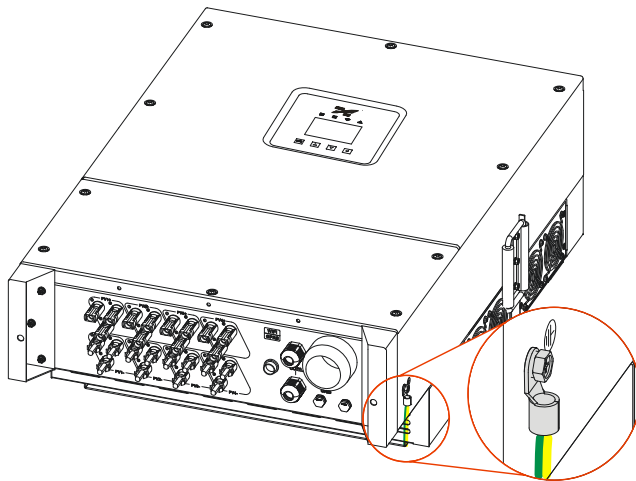

Figure3-10 Grounding
- Step 1 Before perform the electrical connection, ensure the grounding terminal of inverter has been connected with the ground, as shown in Figure3-10.